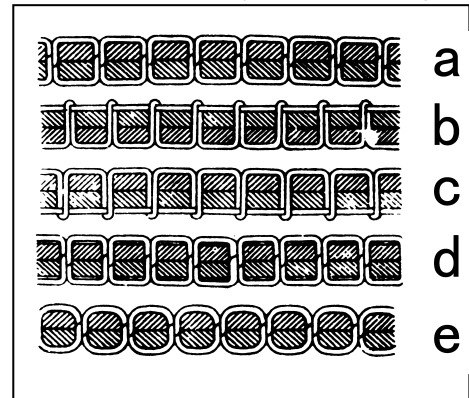
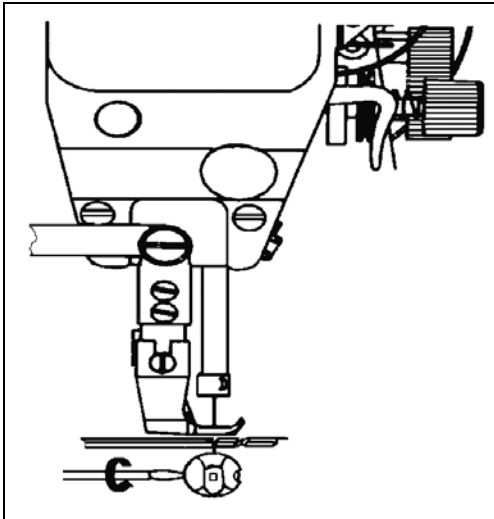

Fig. 15
Fig. 16
14. ADJUST THREAD GUIDE AND THREAD TENSION (Fig.15,16)
Fig.15 shows different stitch forms. Normal stitch form should be as shown in Fig.15 (a). When abnormal stitches cause puckering and thread break-age, the tension of needle thread and bobbin thread must be adjusted accordingly.
1) In case needle thread tension is too strong or bobbin thread tension is too weak, as shown in Fig.15 (b), turn the thumb nut counterclockwise to decrease the needle thread tension, or tighten the tension spring regulating screw of bobbin case to increase the bobbin thread tension (See Fig.16)
2) In case needle thread tension is too weak or bobbin thread tension is too strong, as shown in Fig.15 (c), turn the thumb nut clockwise to increase the needle thread tension, or loosen the tension spring regulating screw of bobbin case to decrease the bobbin thread tension.
3) In case of the stitch forms as shown in Fig.15 (d) and (e), adjustments can be made with reference to the above means.